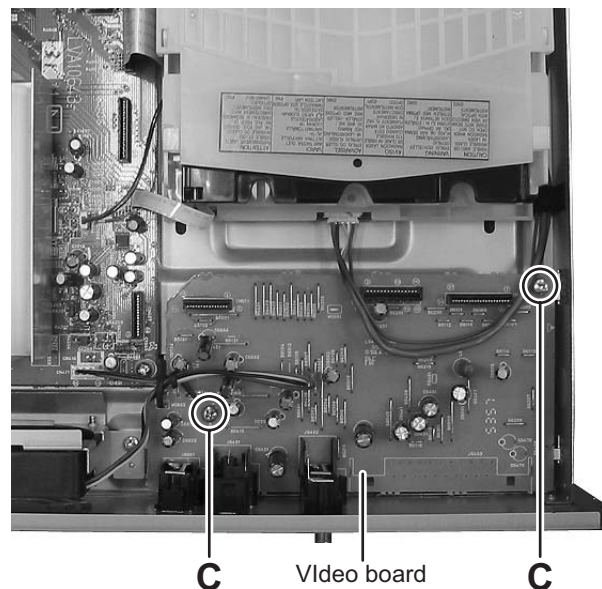

Fig.3
- (5) Remove the two screws **C** attaching the video board. (See Fig.3)